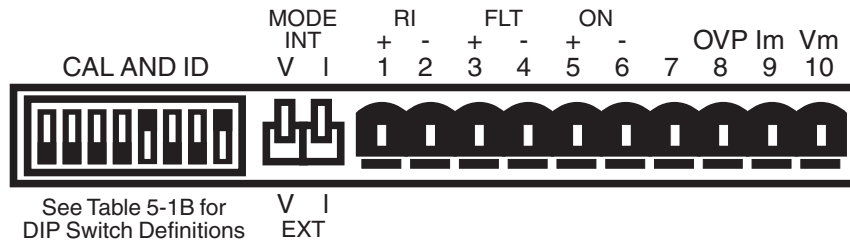

Figure 2-1. RI, FLT, ON and OVP Connections
The MPS has a Fault Indicator (FLT) output and a discrete Remote Inhibit (RI) input which are both interface independent and provide fault indication and remote output shutdown in the event of catastrophic failure. The Fault Indicator relay contact is open when the MPS detects no faults. When the MPS detects an internal fault, a remote inhibit, or an output inhibit, it lights the front panel Fault LED and closes the relay contact. The contact closure alerts other system components of the fault. In an auto-parallel system (up to four MPS units connected in parallel) these signals connect in parallel between each of the MPS units (See Paragraph 2.6 for details on connections between two auto-parallel units). Make connections to a rear panel detachable terminal block defined in Table 2-2 and Figure 2-1.
The MPS provides a discrete ON indicator. Terminals 5 and 6 on the terminal block connector, shown in Figure 2-1 above, connect to relay contacts that close when the front panel circuit breaker is in the ON position. There is also a front panel LED that lights when the MPS is ON and connected to AC power.
Remotely program MPS output current by an external voltage or potentiometer. Enable external analog programming via the rear panel I MODE switch. When the I MODE switch is in the INT I position, external current mode is disabled. When the I MODE switch is in the EXT I position, the external programming voltage is summed with the internal programming voltage. Set the internal programming to zero for external programming only. Apply an external voltage from Ip to m of 0 to 1.25 volts or use a 10 KΩ potentiometer to control the output current over the entire range. Make connections to rear panel detachable terminal block defined in Tables 2-3 and 2-4 and Figures 2-1 and 2-2. The MPS produces 100 A of output current for 1 V at the current programming input.